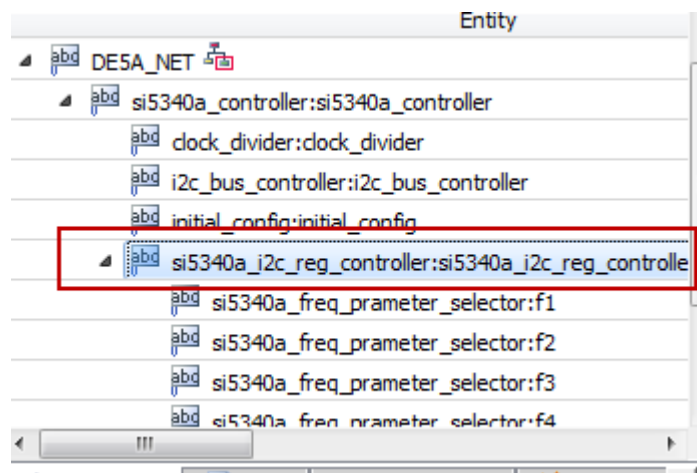
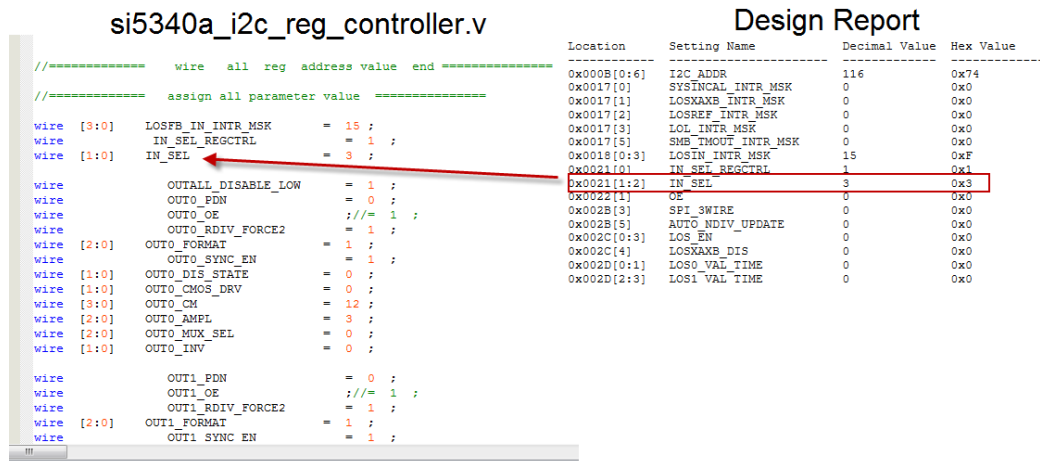

Figure 5-9 Sub-Module file "si5340a_i2c_reg_controller.v"
Figure 5-10 Modify Si5340 Control IP Base on Design Report
- Open Si5340 control IP sub-module “si5340a_i2c_reg_controller.v “ as shown in **Figure 5-9**, refer Design Report parameter to modify sub-module corresponding register value (See **Figure 5-10**).